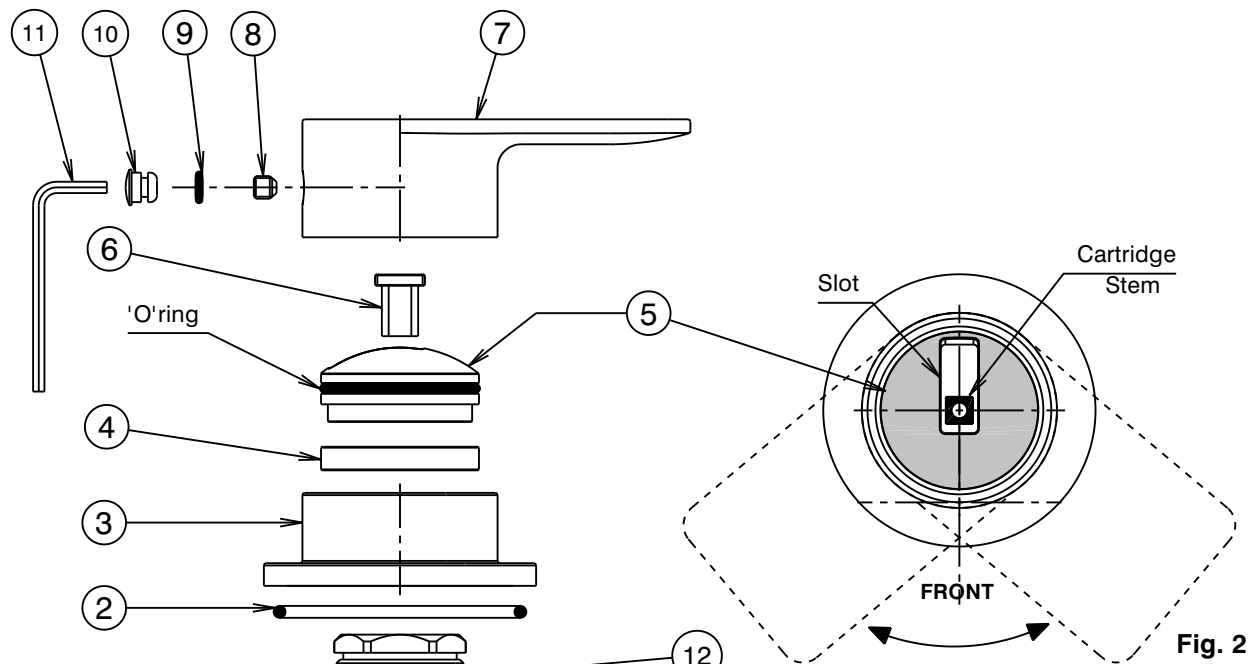

Fig. 2
- 2) Ensure O-ring (2) is fitted into groove under the flange (3), screw flange (3) onto the thread of body (1) and hand tighten until 'O'-ring firmly contacts deck. Clean all contact surfaces of swivel cap (5), 'O'-ring and thrust washer(4), ensure they are clean and free from any debris. Lubricate the thrust washer (4), underside of cap (5) and 'O'-ring then fit the thrust washer(4) around the nut inside mixer body (1). Ensure that the cartridge stem is in closed position, fit the swivel cap (5) along with 'O'-ring into the mixer (1) and ensure the swivel cap cut-out is positioned as shown in **Fig.2**. Fit the insert (6) over the cartridge stem and push it down. Fit handle (7) taking care that it is pushed fully onto cartridge stem & bottomed on the plastic insert (6) then tighten screw (8) using the 2.5mm allen key (11). Fit handle plug (10) together with 'O'-Ring (9) into handle (7) taking care not to damage decorative finish.
- 2) Carefully remove handle plug (10). Using 2.5mm allen key (11), loosen screw (8) and remove handle (7). Remove plastic insert (6) then extract swivel cap (5) and thrust washer (4) from the mixer body (1), taking care not to damage the decorative finish. **Hint:** The small end of the allen key (11) can be inserted into the slot in the swivel cap (5) and used to lever the cap vertically to remove.
- 3) Ensure inside face of mixer body (1) is clean. Check that seal is in position in base of new cartridge (13). Fit new cartridge (13) into mixer body (1), taking care that two lugs on base of cartridge (13) fit into mating holes in mixer body(1).
- 4) Screw on nut (12). **Important:** Nut (12) should be tightened to a torque of 7.5 Nm.
- 5) Clean all contact surfaces of swivel cap (5), 'O'-ring and thrust washer (4), ensure they are clean and free from any debris. Lubricate the thrust washer(4), underside of cap (5) and 'O'-ring then fit the thrust washer (4) around the nut (12). Ensure that the cartridge stem is in closed position with the flats on the stem orientated square with the outlet. Fit the swivel cap (5) along with 'O'-ring into the mixer body (1) and ensure the swivel cap cut-out is positioned as shown in **Fig.2**. Fit the insert (6) over the cartridge (13) stem and push it down.
- 6) Fit handle (7) taking care that it is pushed fully onto cartridge stem, then tighten grub screw (10) using the 2.5mm allen key (11). Fit plug (10), taking care not to damage the decorative finish.